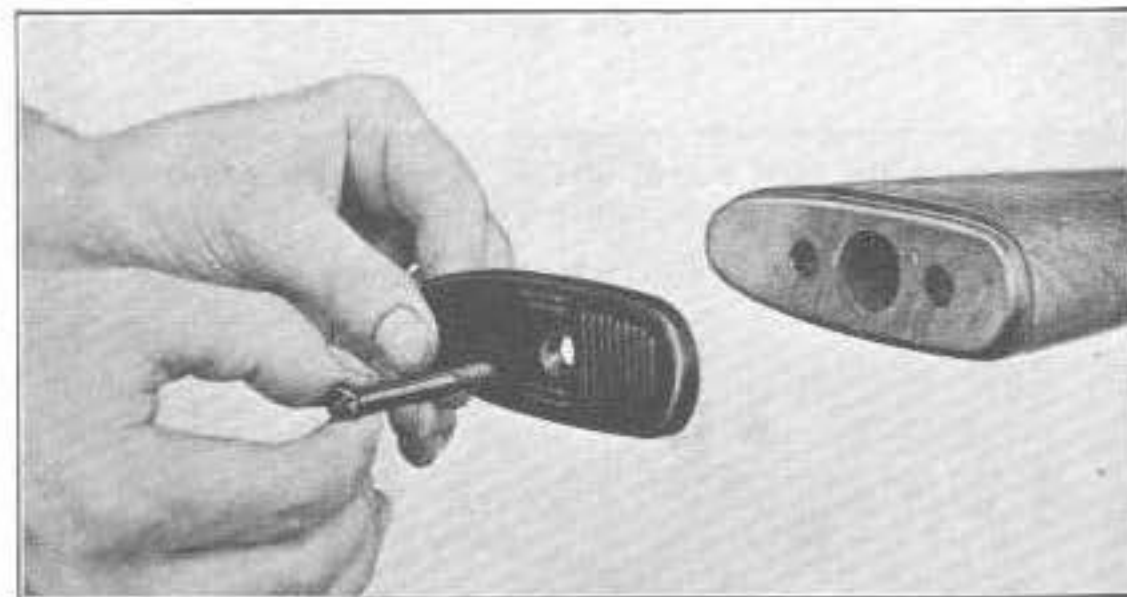

Fig. 113
Remove the butt plate (fig. 113) and the spread washer for the butt plate screw.
- Replace the butt plate and screw home (fig. 113 and 112).